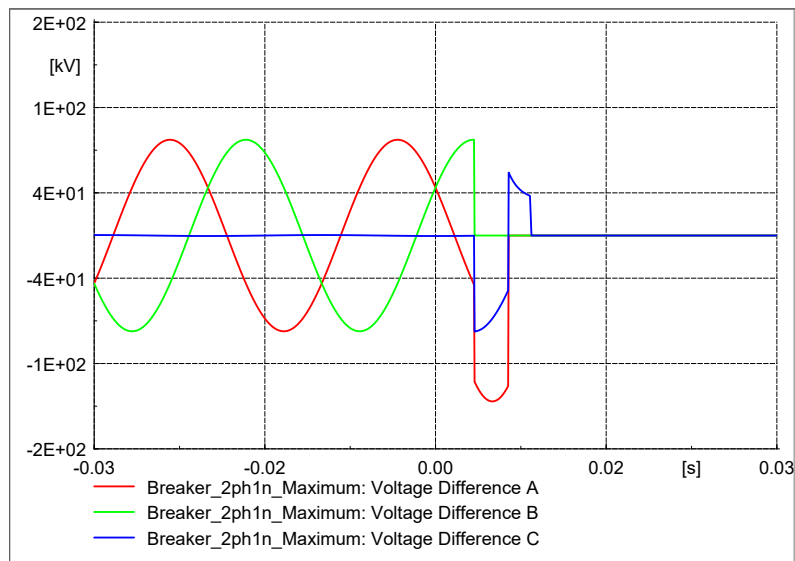

Figure 5.7: Close at voltage maximum without delays.
- The two phases and the neutral are connected as depicted in Fig. 5.7. As described in Sec. 1.1, the breaker defines its own phase nomenclature, i.e. the phase connected to phase b of the terminals is renamed phase a and the phase that is connected to phase c is renamed phase b according to the internal nomenclature of the breaker. The name of the connected neutral is not changed.
The simulation results are illustrated in Fig. 5.7. The event is executed at  $t = 0$  s. The closing condition is fulfilled when phase b (breaker nomenclature) reaches its maximum on the positive half wave. Phase b is then closed immediately, as it is the phase that triggers and as it has no delays. Phase a (breaker nomenclature) is closed with a delay. The delay is the sum of the delay due to the 'Scheme' of the EvtSwitch (Second phase 'a' after = 1 ms) and the 'Scatter' of the ElmCoup (Phase a = 2 ms), i.e. the accumulated delay is 3 ms. Note that the non-zero 'Breaker opening time' does not affect closing events. The neutral closes with a delay of 5 ms, which is the sum of the delay due to the 'Scheme' (Neutral delay = 3 ms) and the 'Scatter' (Neutral = 2 ms). Note that the neutral is labelled 'C' in Fig. 5.7, because of the nomenclature used in plots.